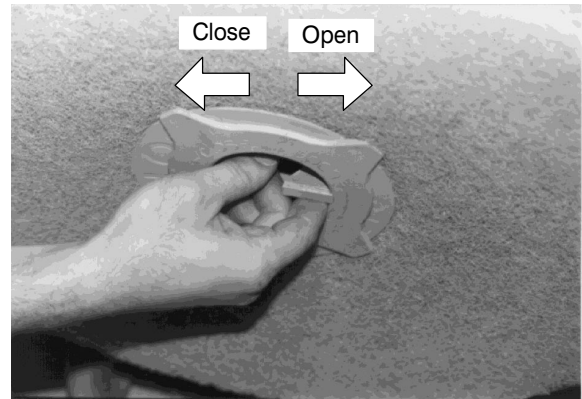

FIG. 20
- Remove burnishing pad. Clean and replace or install a new pad (Figure 20).